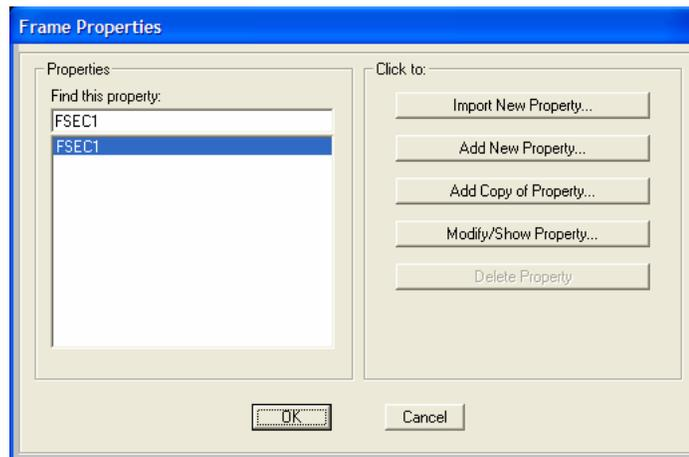
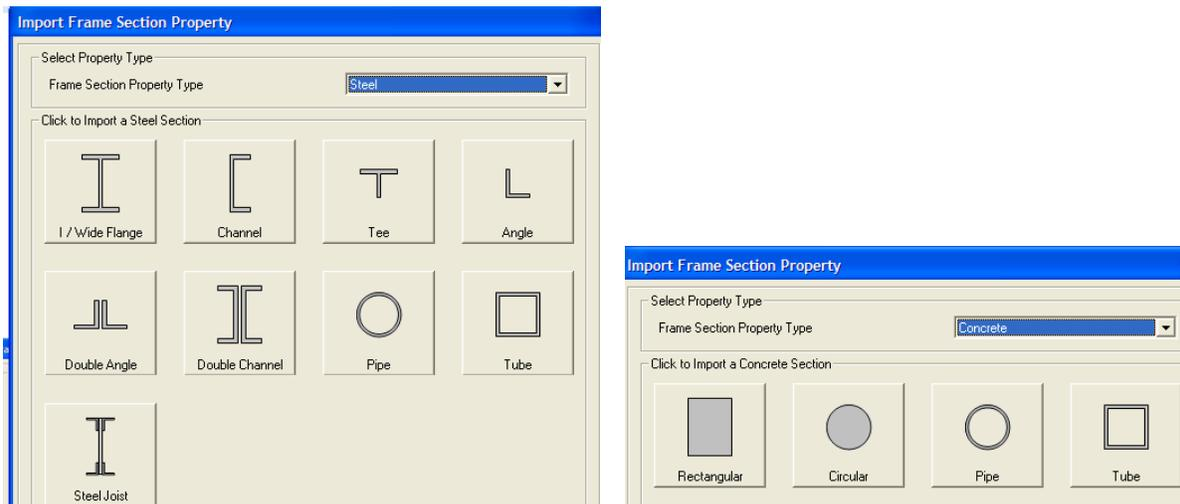

**Figure 11: Define Material**
**Figure 12: Add New Quick Material**
- The next Step after defining supports is to assign properties to the Truss members. These properties include (1) **Material** Properties, and (2) **Frame Section** Properties. In order to do that, you have to define a Material and a Frame Section in SAP2000, and then assign these material and sections to the different members of the Truss. The properties of the material and the sections are generally needed for calculating displacements and rotations. For analyzing Truss problems, you are generally interested in calculating Forces only. As a result, the choice of the material and the sections will not have an effect on the calculated forces in a Linear Elastic Analysis.
- To define the properties of a material, select the **Define** menu located along the top the SAP2000 interface window and then click on **Materials**. The Define Materials window will appear as shown in Figure 11. On this menu you can define a new material or change the properties of an existing material. If you click on the **Add New Material Quick** Button, you will get the Window shown in Figure 12 from which you can choose the type of material and its properties. For the truss member, choose the material to be Steel and choose ASTM A36 as the specification for the type of Steel.